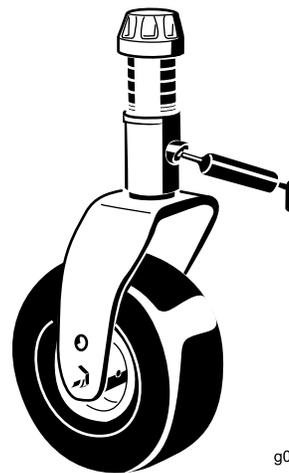

Figure 45
- 2 caster-fork-shaft bushings (Figure 45)